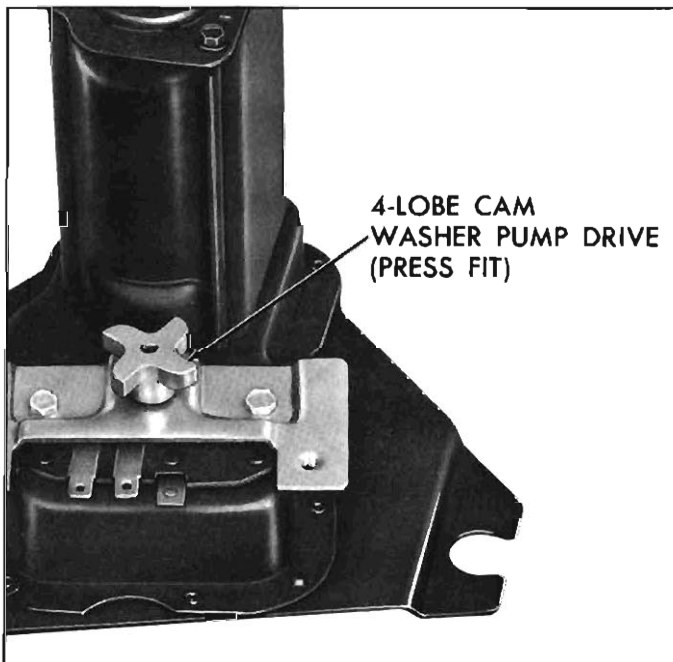

Fig. 8-11—Washer Pump Drive Cam Location
**NOTE:** Remove washer pump assembly and washer drive cam on wipers so equipped. Drive cam can be pried off using suitable tool (fig. 8-11).